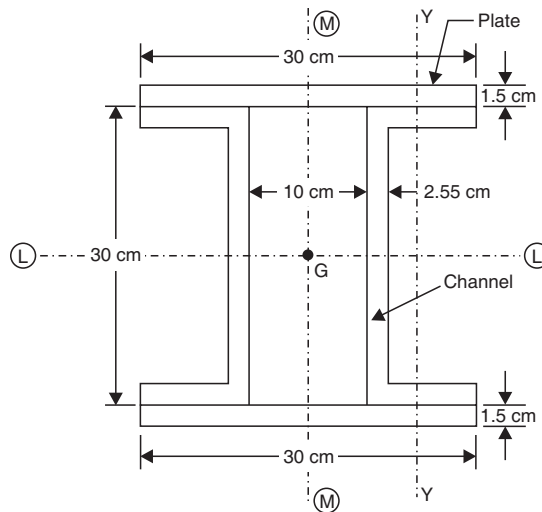

Fig. 5.24
**Example 5.5.** A fabricated girder system consists of two plates  $30 \text{ cm} \times 1.5 \text{ cm}$  and two ISLC 300 channels  $30 \text{ cm} \times 10 \text{ cm}$  set  $10 \text{ cm}$  apart as shown in Fig. 5.24. The properties of a  $30 \text{ cm} \times 10 \text{ cm}$  channel section are as follows :
**Sol.** Refer to Fig. 5.24.